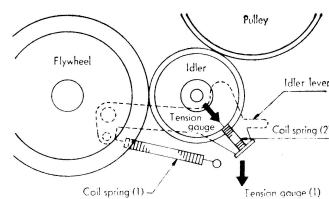

Fig. 4
- d) The pressure between pinch roller and capstan is the best at 170-200 gr. (at 4.75 cm/sec speed). Adjusting is done with coil spring. (Fig. 4)